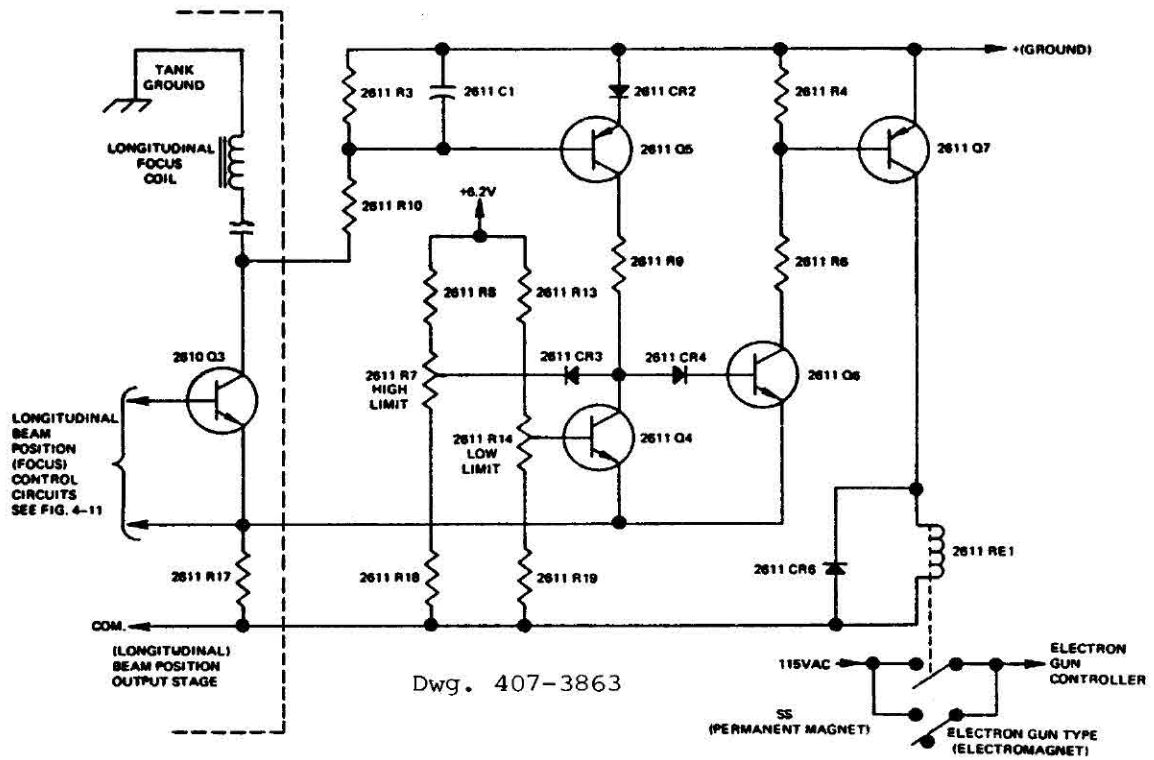

Figure 4-13. CV-14 A and B beam position focus interlocks
4.4.2 Beam Position Focus Interlock (Electromagnetic Focus Guns Only) (Figure 4-13)